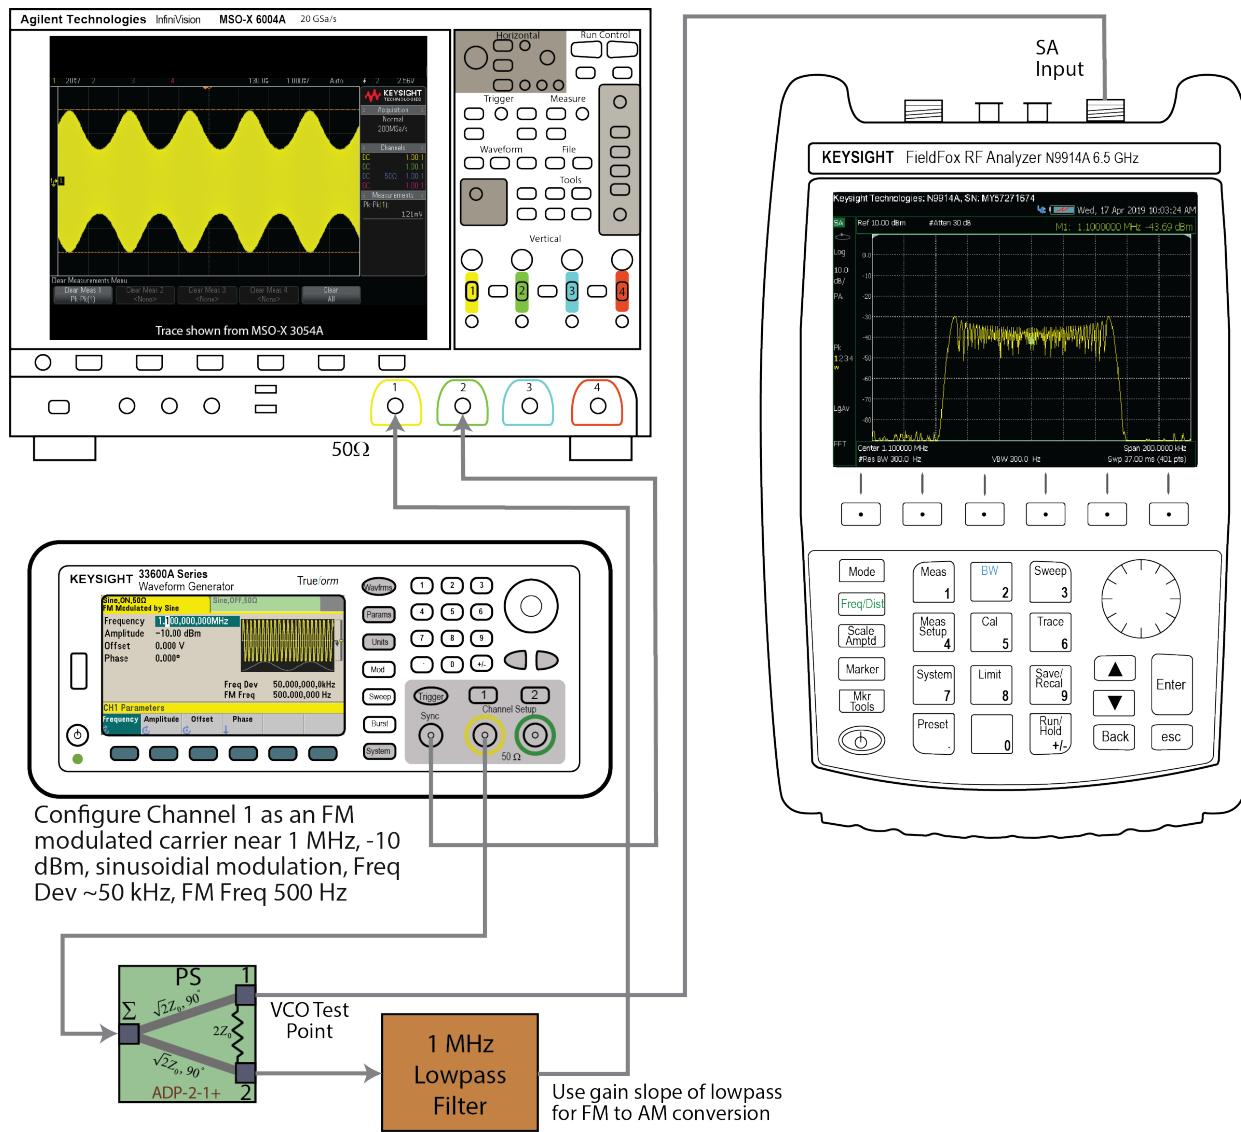

Figure 10: Slope detection using the gain slope of the 1 MHz lowpass to convert FM to AM.
1. Configure the test set-up of Figure 10 using the RF Board 1 MHz lowpass filter as a means to convert FM to AM. Due to component variations your filter response will be slightly different from the screenshots embedded in Figure 10.
- Obtain results similar to those shown in Figure 10 by setting the carrier frequency somewhere above the filter cutoff, e.g. around 1.1 MHz, and use sinusoidal tone modulation with $f_m = 500$ Hz. Adjust the *Freq Dev to be around 50 kHz.